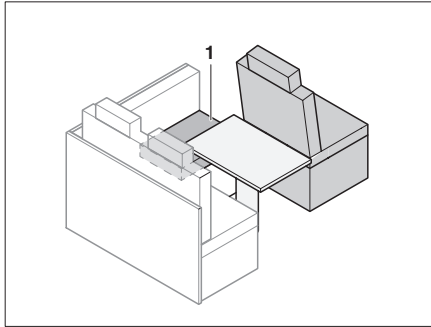

Fig. 114 Prior to conversion
- Lay the seat cushion (Fig. 114,1) to the side.